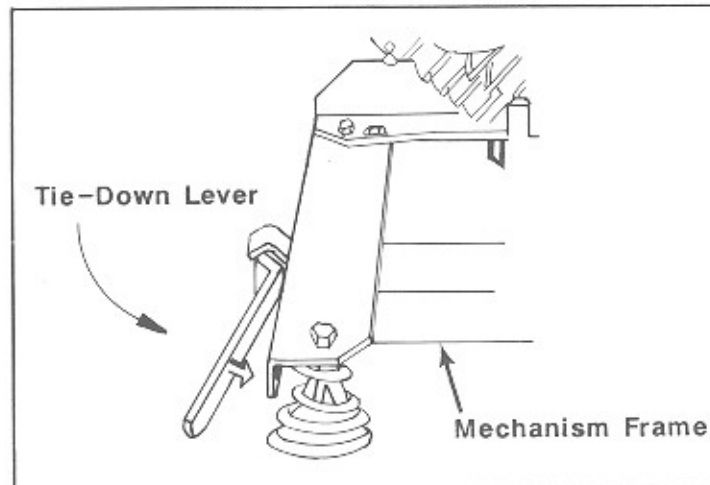

Figure 1-4. CD Changer Tie-Down Levers
2. Remove the shipping tape from the front ends of the mechanism tie-down levers on the side of the mechanism frame (refer to figure 1-4).